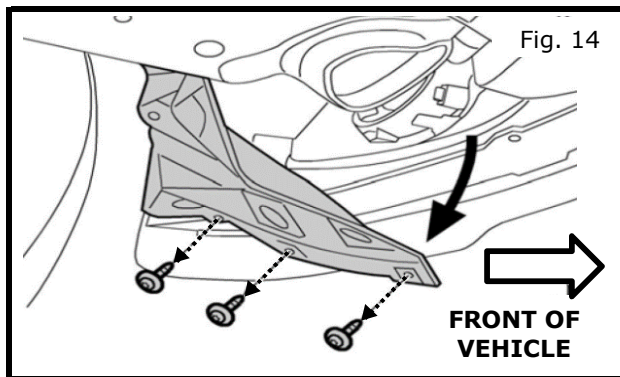

Fig. 14
- a) Remove three (3) T-20 Torx screws from outer lower part of protector, directly in front of wheel as shown in Fig. 14.